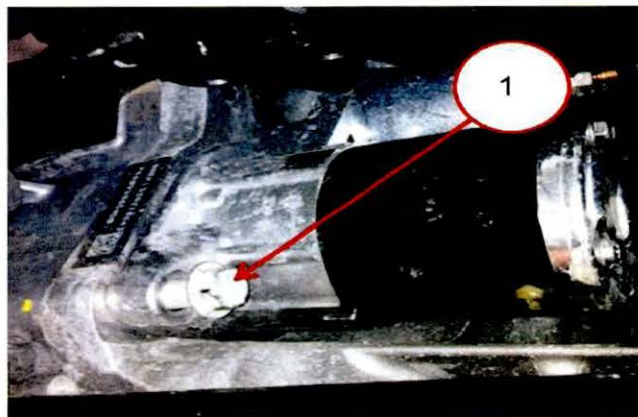

Fig. 3 Starter
13. Loosen but do not remove the lower starter motor fastener to transmission (Fig. 3). Back out the fastener approximately 15 mm (0.59 inches).